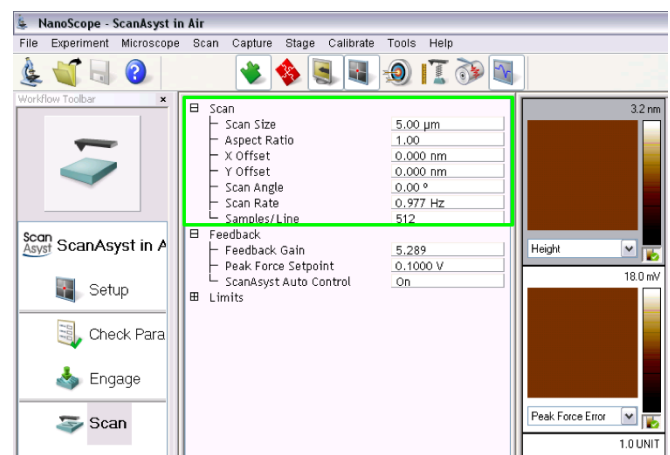

Figure 8. ScanAsyst parameters. Adjust those in the green box if desired and make sure ScanAsyst Auto Control is on; the others are adjusted automatically.
- **Specify imaging parameters** in the software, as shown in **Figure 8**. Good initial parameters are: